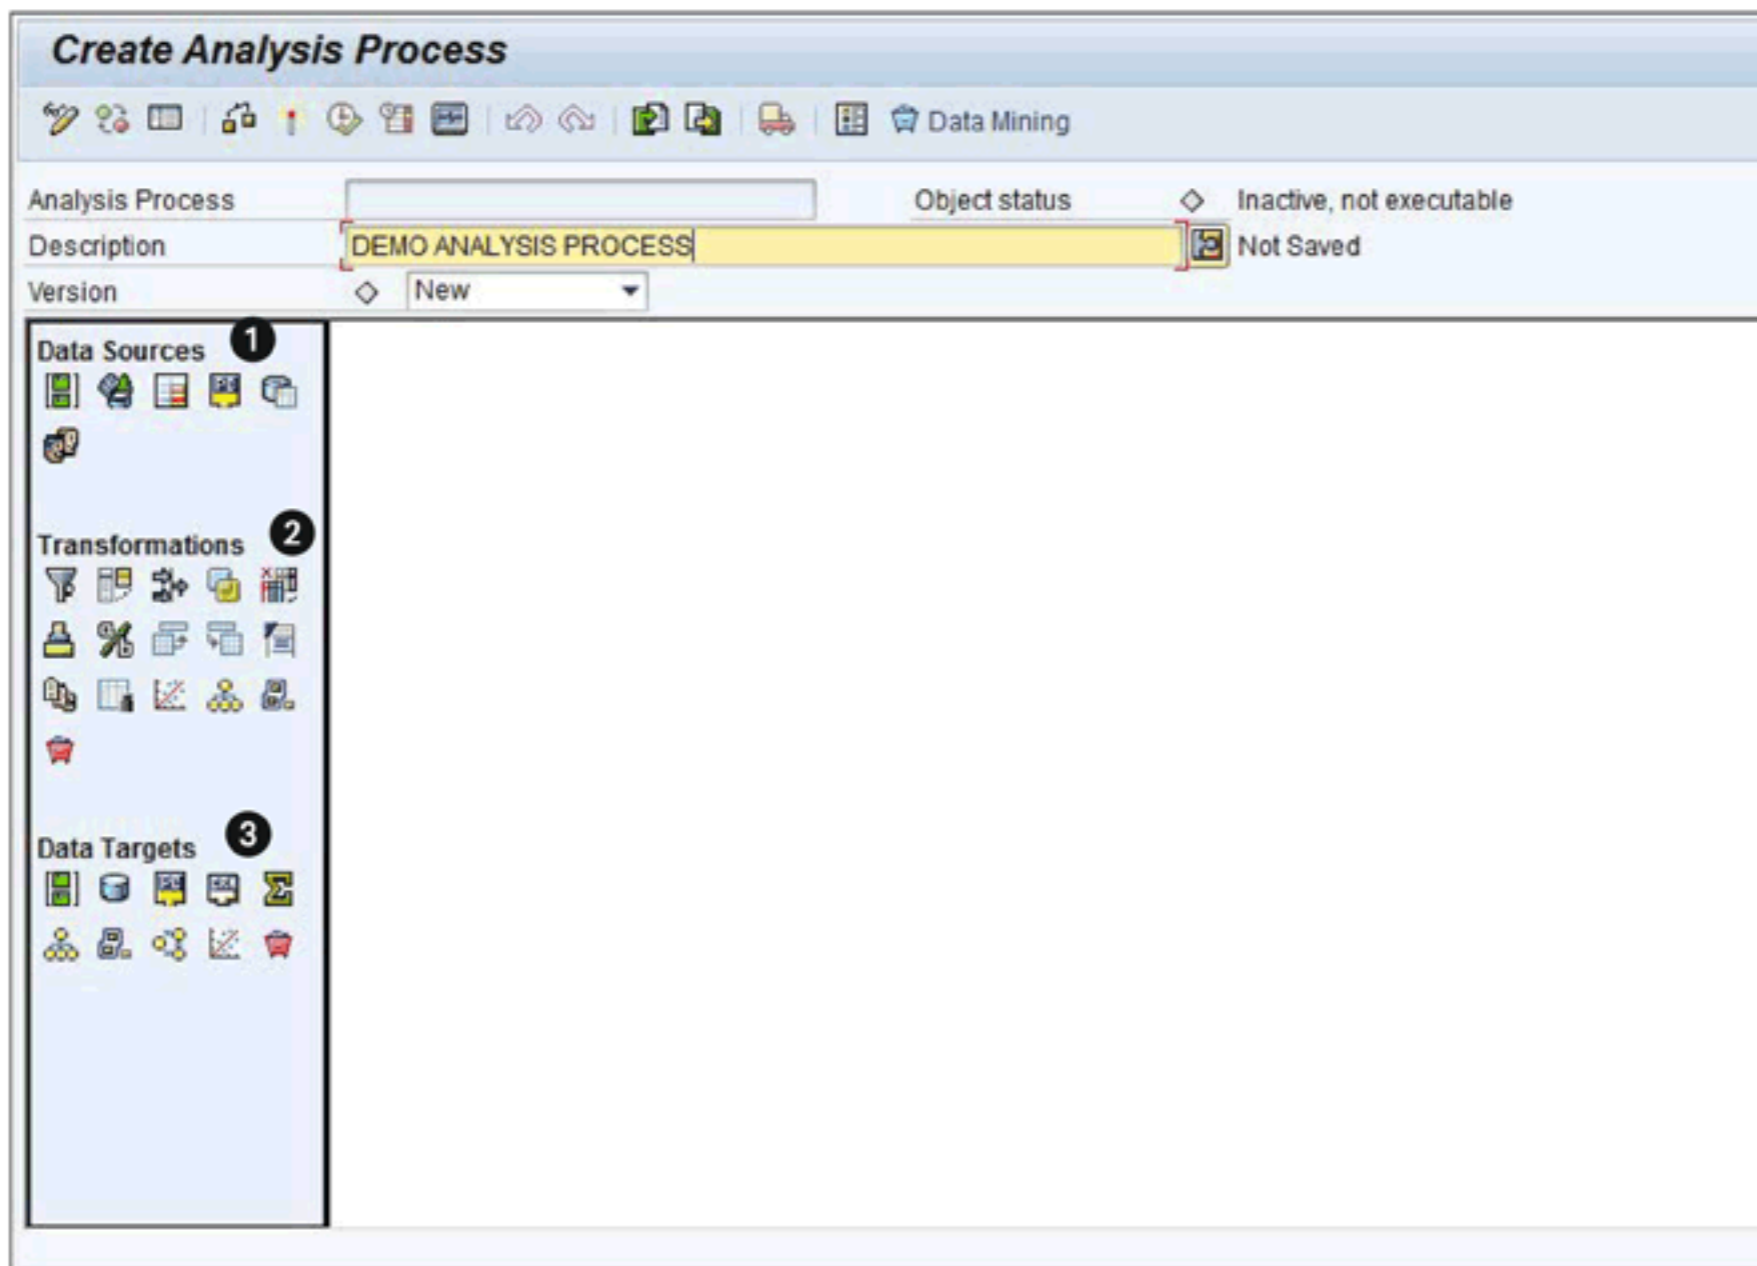

Figure 15.6 Components of Analysis Process
This displays the ANALYSIS PROCESS DESIGNER—CREATE screen (Figure 15.6). The left panel of the screen displays all of the components that can be used to build an analysis process, and the right panel displays the design area where the analysis process is built.
The components from which data is read for further processing in an analysis process are categorized as DATA SOURCES (❶ of Figure 15.6). An analysis process can use master data, BEx queries, InfoProviders, flat files, or database tables as a data source.